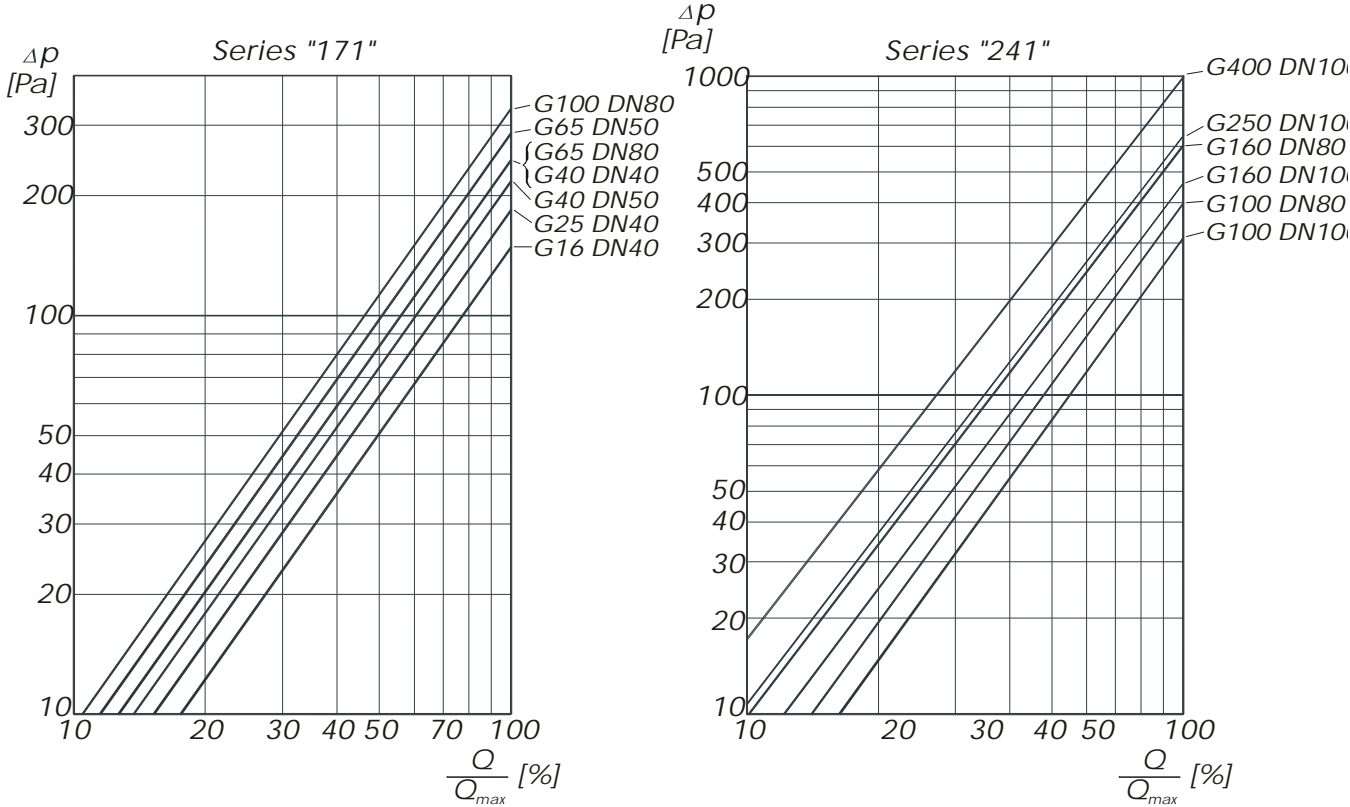

Fig.1. Pressure loss for CGR-01 Rotary Gas Meters;
Gas meters create a pressure loss in the installation. These values, for the CGR-01 Rotary Gas Meters, for the gas density $\rho_0 = 1,2 \text{ kg/m}^3$, may be determined from the charts, Fig. 1.
- Δp - pressure loss at base conditions (Figure 1) [Pa].